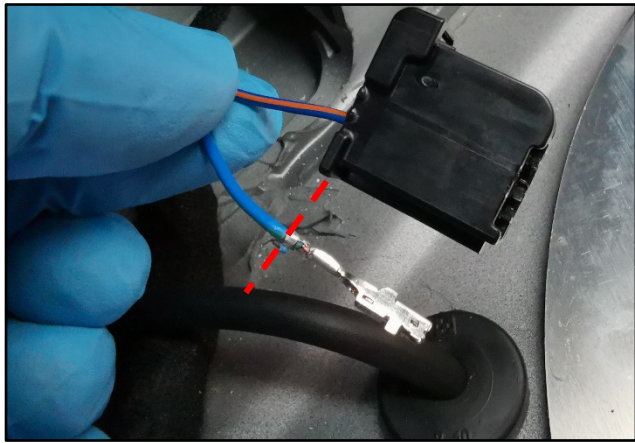

Figure 5
7. Use the applicable tool to remove the existing terminal (refer to Figure 5).